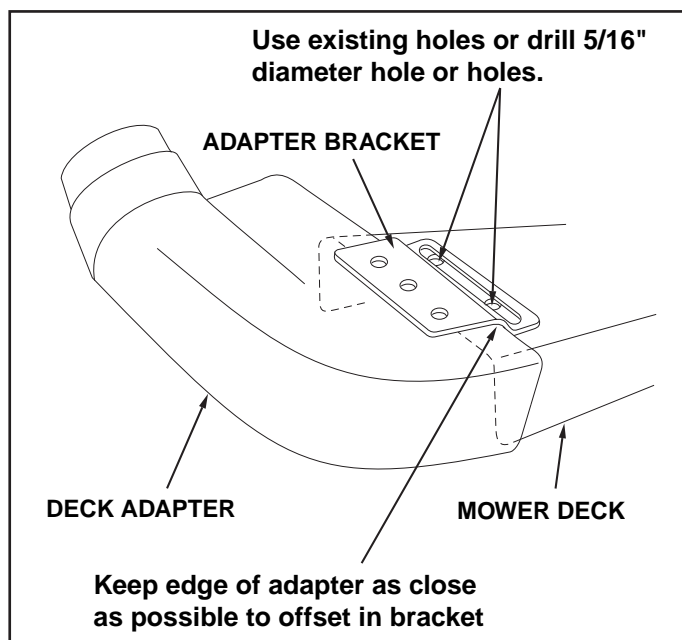

FIGURE 28
- Holding the adapter bracket and the deck adapter together, position the deck adapter on the mower deck. Keeping the edge of deck adapter as close as possible to the offset in the adapter bracket, see if the slot in the adapter bracket can be aligned with one or two of the deflector holes in your mower deck's discharge opening. If the bracket can not be located correctly using existing holes, it will be necessary to drill one or two 5/16" diameter holes in the deck. See figure 28.